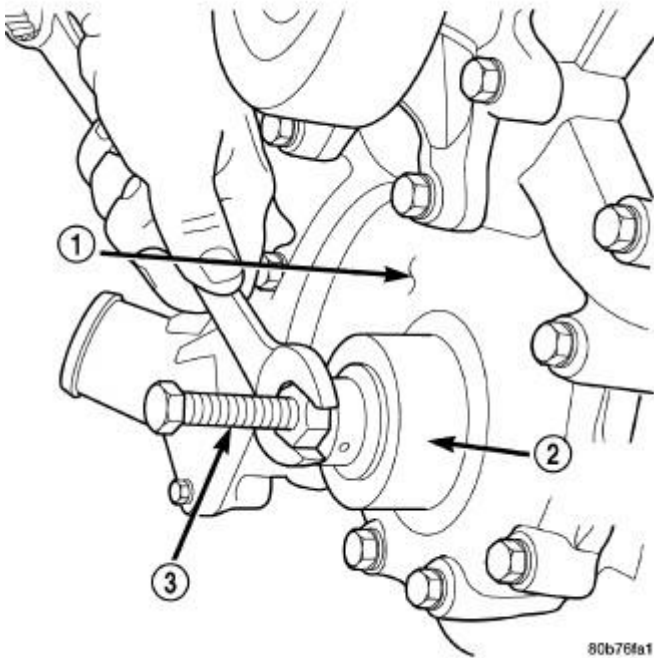

Fig. 111: Installing Crankshaft Front Oil Seal
1. Using the Seal Installer (special tool #8348, Installer, Seal) (2) and Damper Installer (special tool #8512A, Installer, Damper) (3), install crankshaft front seal. Refer to **Fig. 111**.